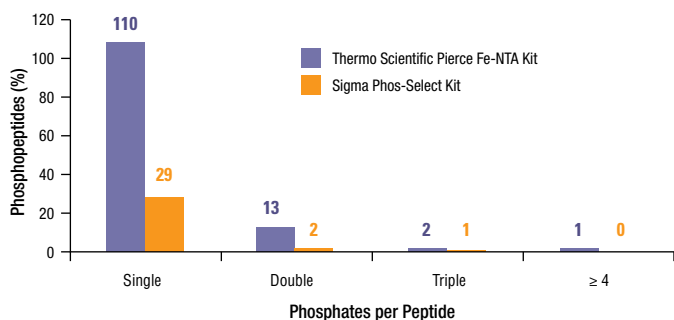

Figure 2. The Thermo Scientific Pierce Fe-NTA Phosphopeptide Enrichment Kit effectively captures phosphopeptides with multiple phosphates.
Multiple phosphorylated amino acids within a peptide contribute to the complexity of phosphopeptide analysis. Pierce Fe-NTA Spin Columns enrich peptides with three or more phosphorylated sites and significantly outperform other commercially available columns (Figure 2). Phosphopeptide enrichment greatly reduces sample complexity and enables effective identification and characterization of phosphorylated peptides by MS (Figure 3).
The stringent washing conditions used for the TiO2 method increases the selectivity for phosphopeptides to > 90% (Figure 2). These wash conditions reduce nonspecific binding of acidic peptides while allowing the TiO2 to enrich a higher total number of phosphopeptides than IMAC. Because some of the salts in these stringent washes might be present in the eluted samples, the kit includes graphite spin columns to desalt and concentrate enriched phosphopeptides. These convenient columns enrich hydrophilic phosphopeptides with high recovery, resulting in more successful MS results (Figure 3).5
**Figure 2. TiO2 selectively enriches more phosphopeptides than Fe-NTA IMAC.** The numbers refer to the total and unique number of phosphopeptides enriched by each method. The Y-axis is the percentage of phosphopeptides in the number of total and unique peptides, or the percentage of acidic residues in enriched unique phosphopeptides.